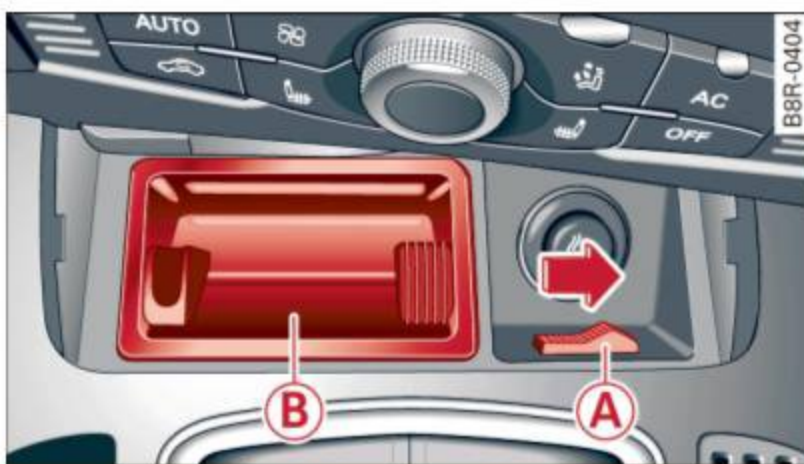

Fig. 95 Front center console: Removing the ashtray insert
- ▶ To access the emergency release mechanism, remove the ashtray insert (B) using the release switch (A) ⇒ fig. 95.